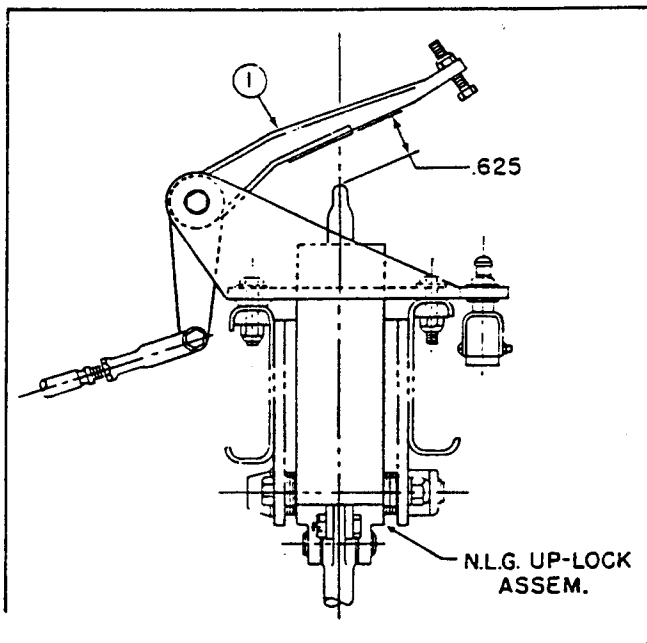

Figure 41. Rigging Nose Gear Normal and Emergency Control Cables
f. Adjust crank assembly (figure 41, reference 1) to .625 dim.